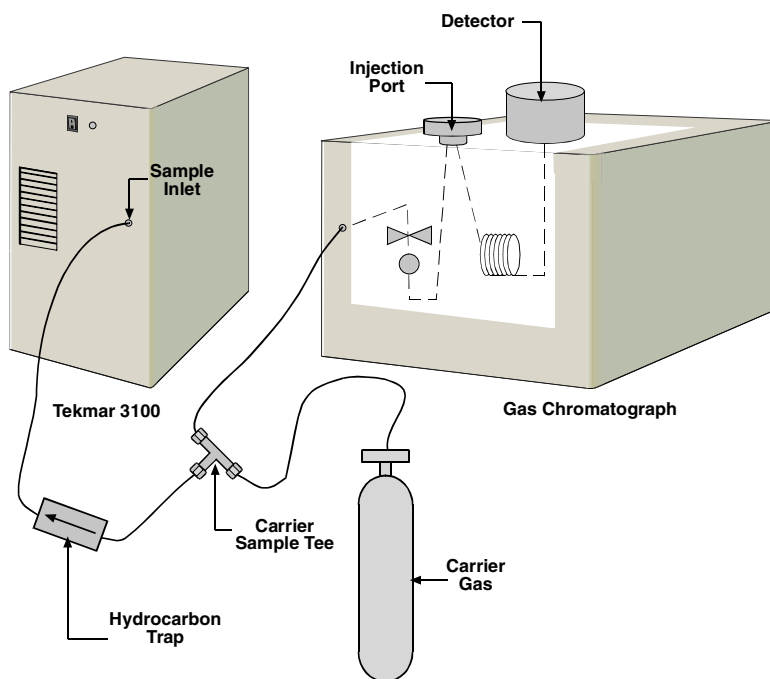

Figure 3-2 Connecting to a Sample Gas Supply
1. If there is no tee union in the carrier gas supply line to the GC, install one (as illustrated in Figure 3-2).
**Note:** If there is no hydrocarbon trap on the carrier gas supply, install the trap provided in the 3100 kit box, as shown in Figure 3-2.